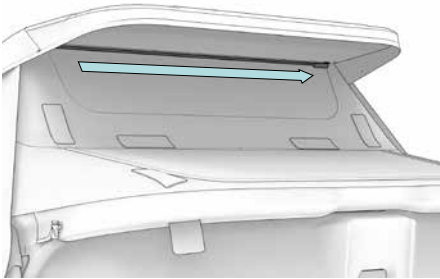
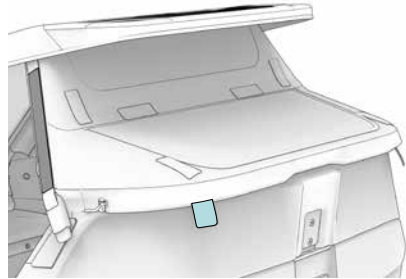

Fig. 44
Fig. 45
Pull the zipper of the rear section ⑨ in the roof area toward the right to close it (Fig. 44), then velcro the sides to the Fidlock® Velcro straps from the inside (Fig. 45).
Integrated into the lower edge of the rear section are a rubber band and two tie straps (Fig. 45), which are used to pull the rear section rain-tight across the top edge of the Ortho-Safety-Collar.